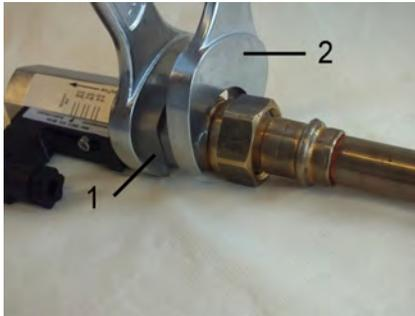

Fig. 11: Screw in the device
3. ➤ Keep turning in the adapter union ( Fig. 11/2) while holding the process connection of the device locked ( Fig. 11/1) until the connection is tight.